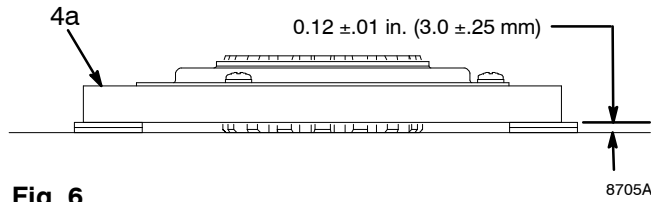

Fig. 6
1. Fig. 6. Lay two stacks of two dimes on smooth bench surface.